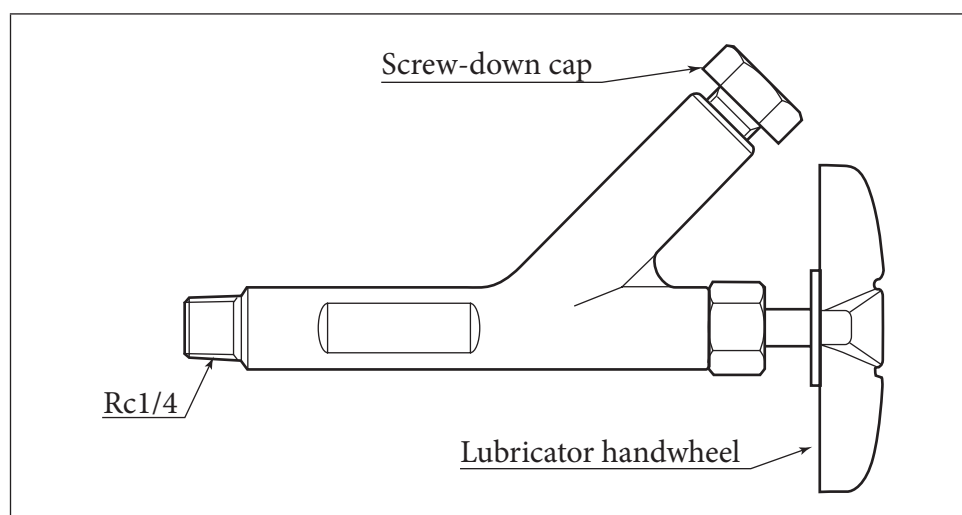

Figure 2-2. Lubricator (Class 600 or under)
- (4) If the valve has a lubricator as shown in Figure 2-2, check whether the bonnet section has been lubricated or not. To do this, loosen the lubricator handwheel and turn the squeeze screw. If the squeeze screw turns easily, apply grease following the lubricating procedure mentioned below. (If turning the squeeze screw requires more torque, grease has already been applied.)